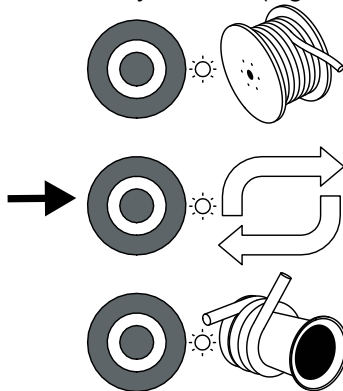

Figure 15
4. When the Mode Select LEDs next to the Mode Select Buttons start flashing white, select Repeater Mode endpoint indicated by the icon (Fig. 15).